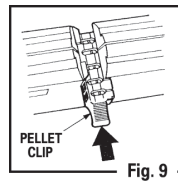

Fig. 9
- Place the pellet clip into the gun as shown in figure 9, making sure to line up one of the pellet chambers with the barrel chamber.